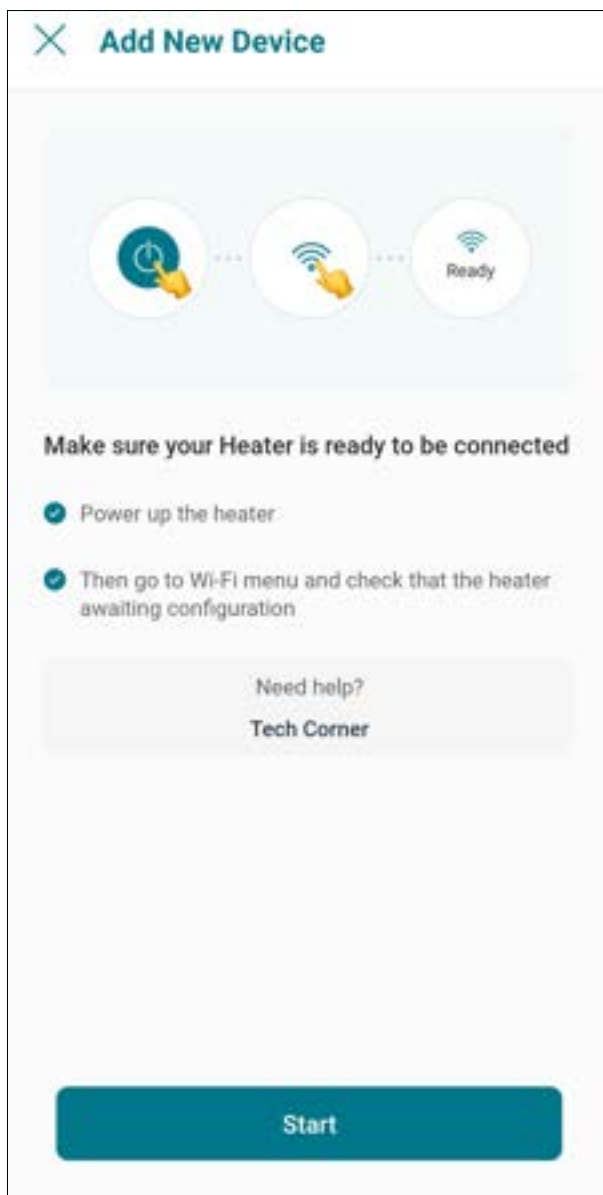

Figure 114. Check your Unit
4. "Check your Device" screen will appear. Ensure to have the heater powered and Wi-Fi signal available in the area, then press "Ready" button. See **Figure 114**.